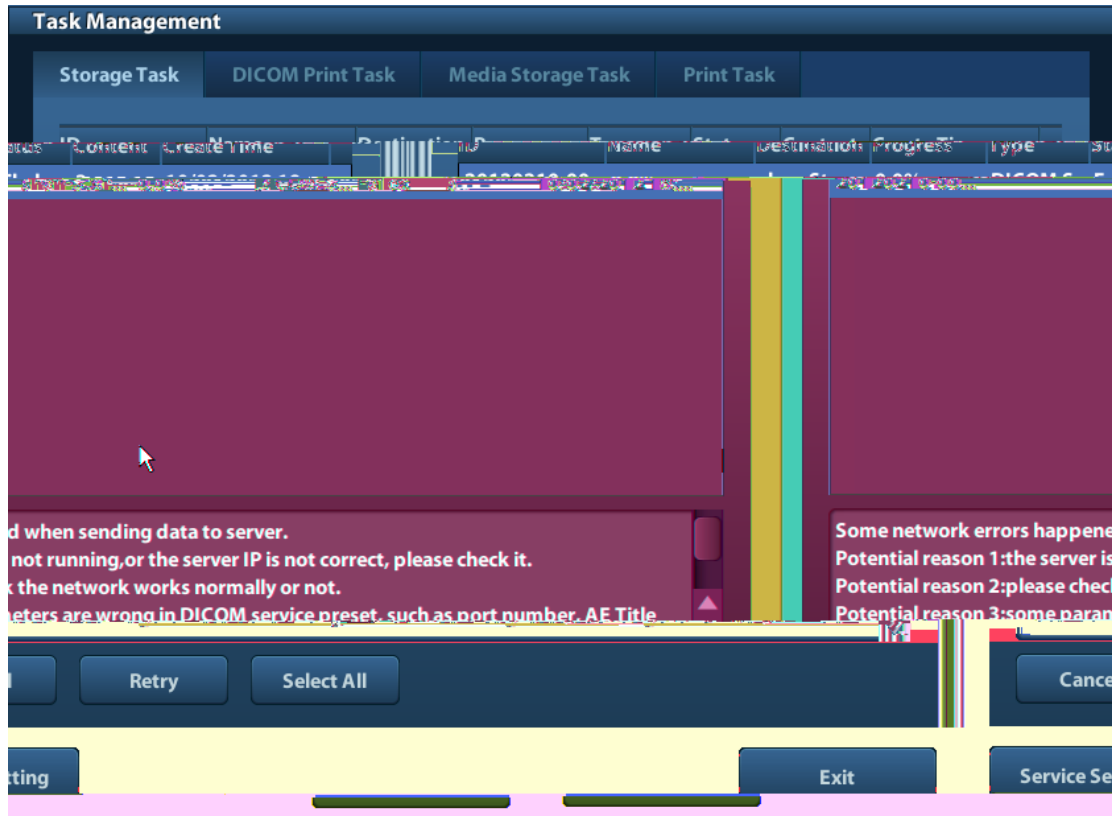

Figure 24 Association aborts
- The association is denied by the SCP due to incorrect setting of AE_TITLE on the SCU. See Figure 24 Association aborts.
- Network cable unplugged or network equipment is failed during data transmission. See the Figure 24 Association aborts.